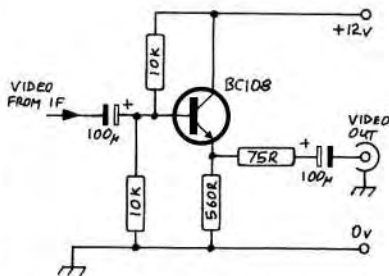

Fig.4 VIDEO EMITTER FOLLOWER
- 5) Connect the video output from pin-17 to the circuit shown in Fig.4
The circuit in Fig.4 will provide a composite video signal from the receiver output of 1 volt p-p into 75-ohms, suitable for feeding a monitor or VCR. The only further requirement for using this receiver is the addition of a 70cm pre-amplifier, to enable the weaker signals to be seen.